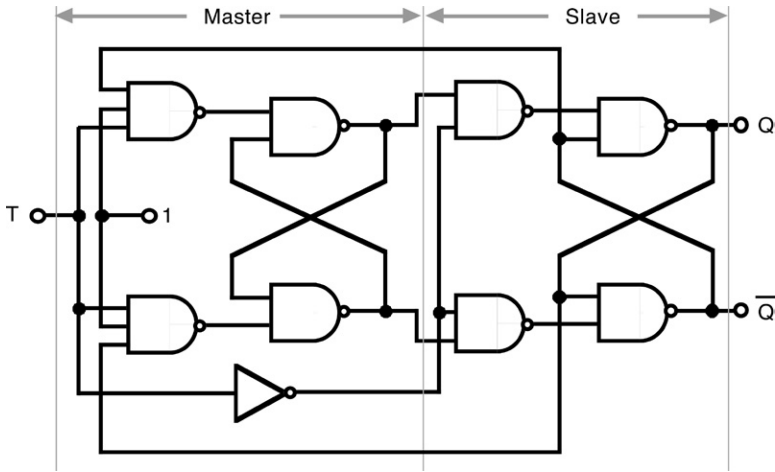

FIGURE 11.12 A T-type bistable.
(where T stands for “toggle”) shown in Figure 11.12. The lone T input of this circuit is really just the CLK inputs of other bistables.
- The last row of the function table shows a bistable operation known as toggling – in which the output state changes from whatever state it is, to the other state. This, you will of course remember, is how the T-type bistable of Figure 11.12 is created.